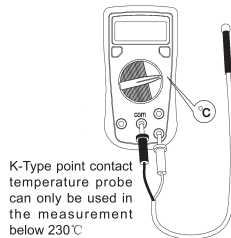

figure 8
**H. Temperature Measurement** ( only UT136C, see figure 8)